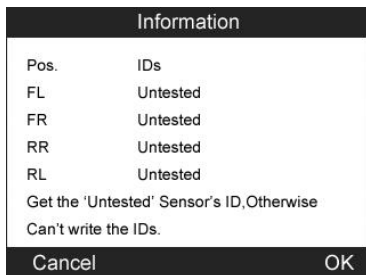

Figure 4.25
- NOTE:** If there are untested sensors in the vehicle, the writing ID process cannot proceed. The tool will display a warning message as below.(Figure 4.25) In this case, follow the sensor check procedure to activate all sensors in vehicle and register sensor IDs again.